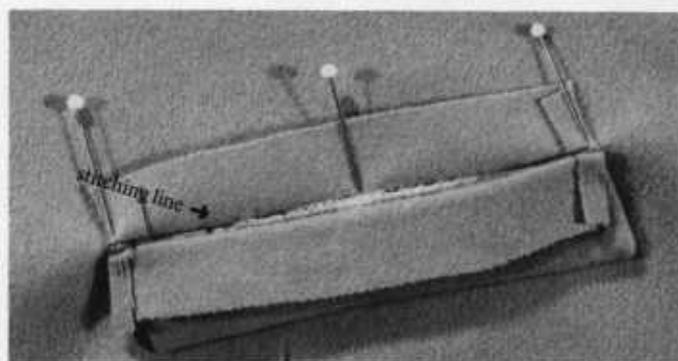

figure 37
- On the garment outside, place the welt front side down (right sides together) with the stitching line of the long open edge of the welt on the marked lower stitching line of the welt marking (*figure 37*). Lift the seam allowance of facing side of the welt back over the facing and pin in place (keeps it out of the way). Baste or pin only the front side of the welt in place.
- Stitch from edge to edge through the front side of the welt and tie threads exactly on welt corners (*figure 37*).